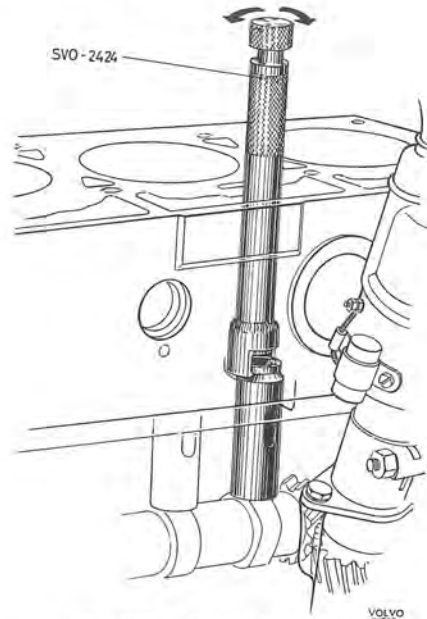

Fig. 2-20. Removing valve tappet
3. Remove the alternator, water pump, distributor, rocker arm casing, rocker arms and oil filter. Remove the manifolds with carburetors. Take off the cylinder head. Remove the valve tappets with tool 2424, see Fig. 2-20.